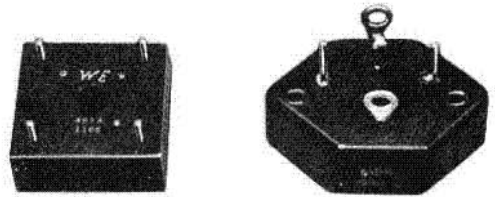

Fig. 6—487A and MDA 952-2 Diodes
**5.02** To provide a margin of safety, install 24G fuses (1-1/3 amp) in place of the 24C fuse (2-amp) in the 24V TALK and 24V SIGNAL dc outputs of the units using the 487A diode. The following will help in identifying the 20B1 (MD) and 20C1 (MD) power units involved:
- The 487A diode is square and approximately 1 inch on a side. It is fastened with one central mounting screw. See Fig. 6.
- The MDA 952-2 is hexagonal and is slightly larger. It is fastened with two screws. See Fig. 6.